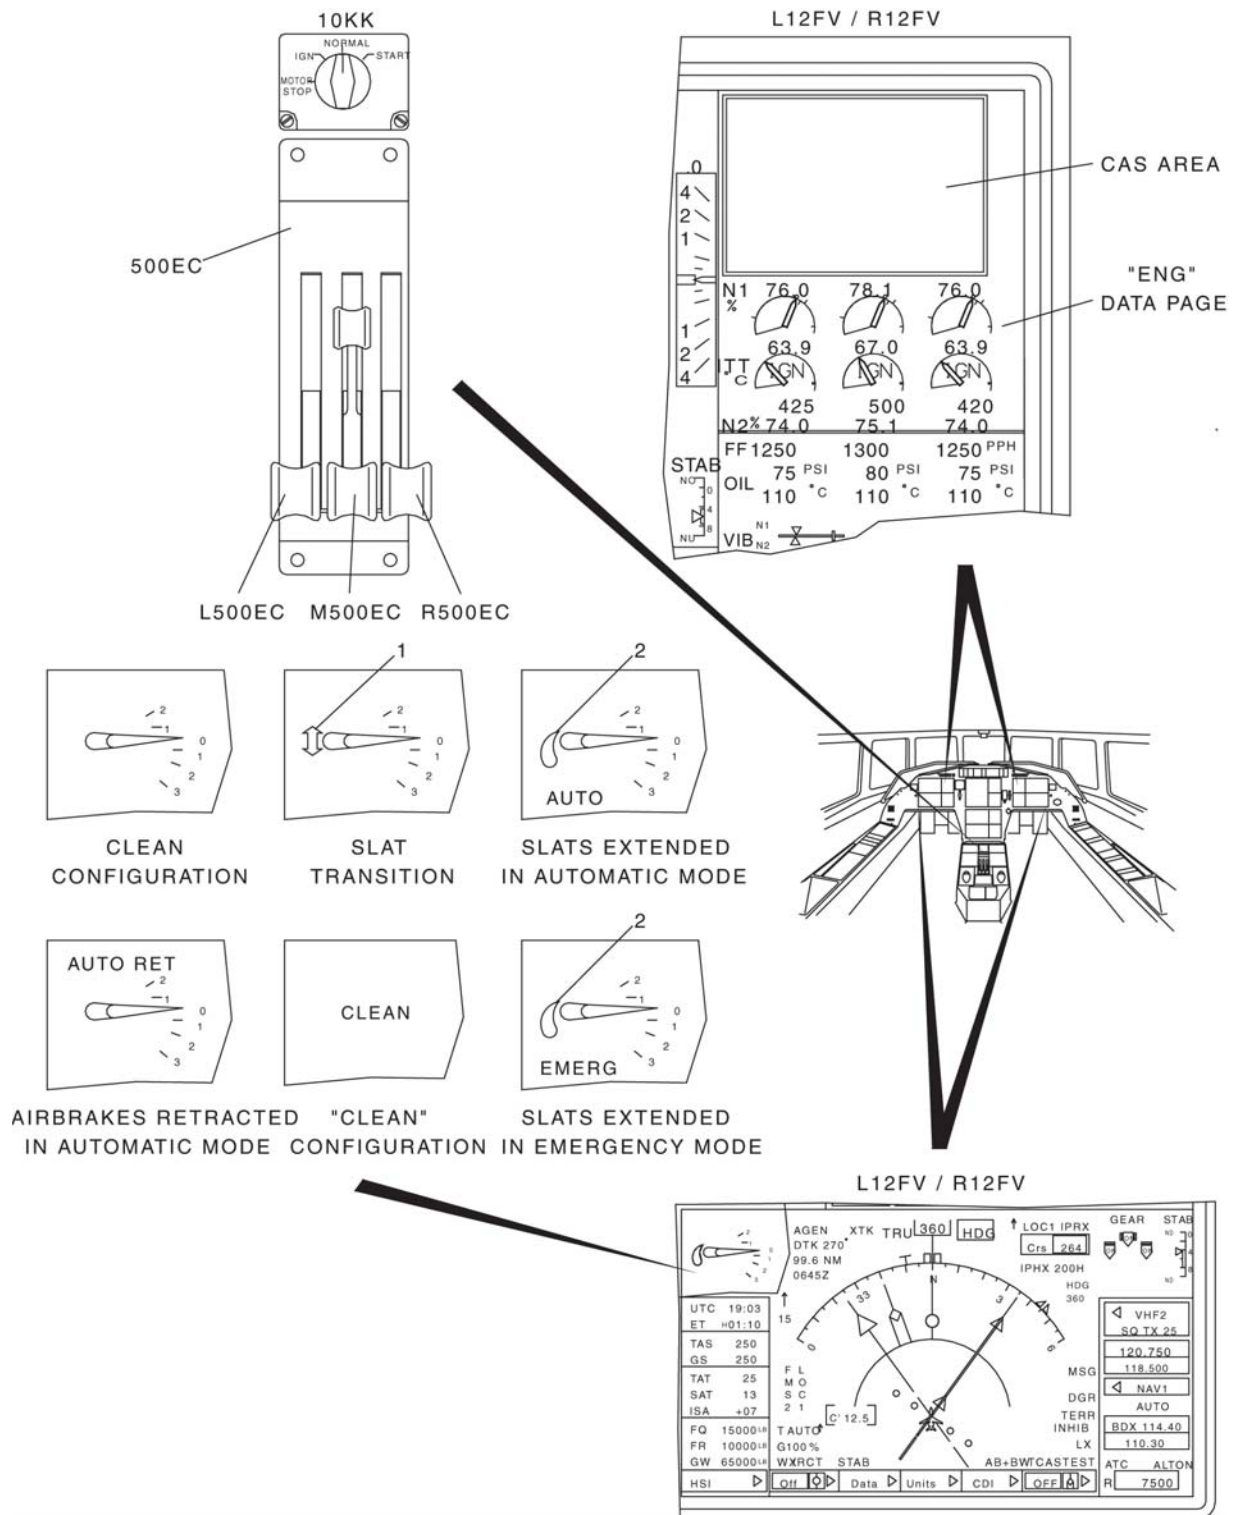

FIGURE 1: FUNCTIONAL TEST OF SLATS
- A. Refer to Figure 1: Functional Test of Slats
- (1) On the slats / flaps control box, the slat control lever is set to the "CLEAN" position.
- (2) On the Throttle Control Unit (TCU) (500EC), the three throttle control levers (L500EC, M500EC, and R500EC) are set to the "STOP" position.